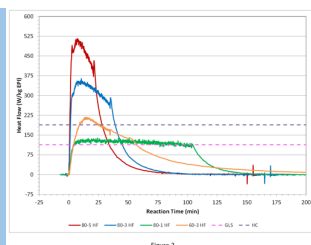
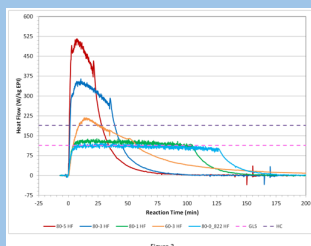

Figure 2
Figure 3
Figure 2 shows the now normalized (W/kg EPI) heat flow profiles for our series of four RC runs together with the normalized cooling capacities for the 2000 kg batch size at the 12,000 scale for glass lined steel (GLS) and Hastelloy C (HC) reactors.
In fact, an 80°C run with a 0.822 g/min addition (126 minutes) was done and the results are shown in Figure 3 (an updated version of Figure 2).
2. Within the VSP2 software, select the button that says "Calibrate Temperature and Pressure" to open up the calibration window (see Figure 2).
Figure 2: The "Calibrate Temperature and Pressure" button is shown by the red arrow when the software is opened. When clicked, it will redirect the user to the calibration window